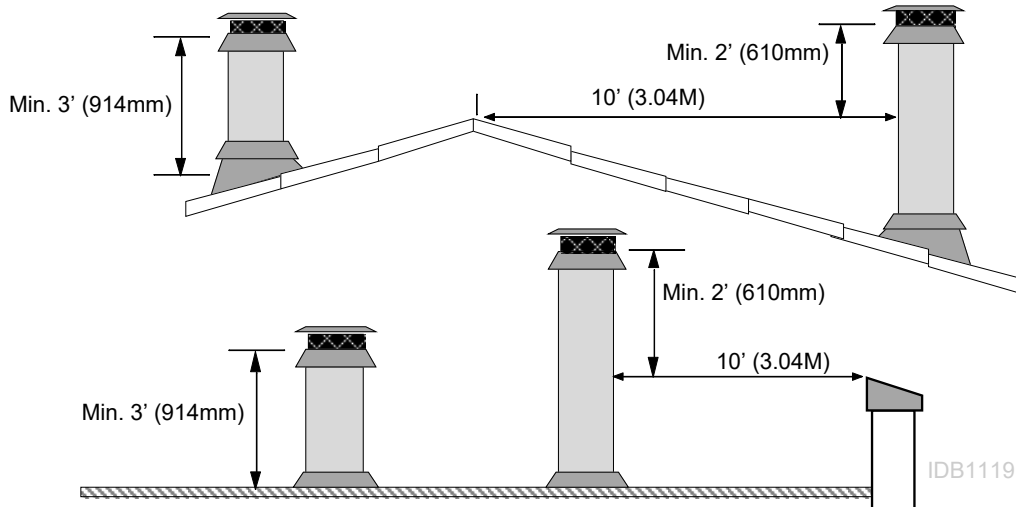

Figure 3
- Must terminate at least 3' (914mm) above the roof **and** at least 2' (610mm) above any portion of the roof within 10' (3.04M) - see Figure 3.